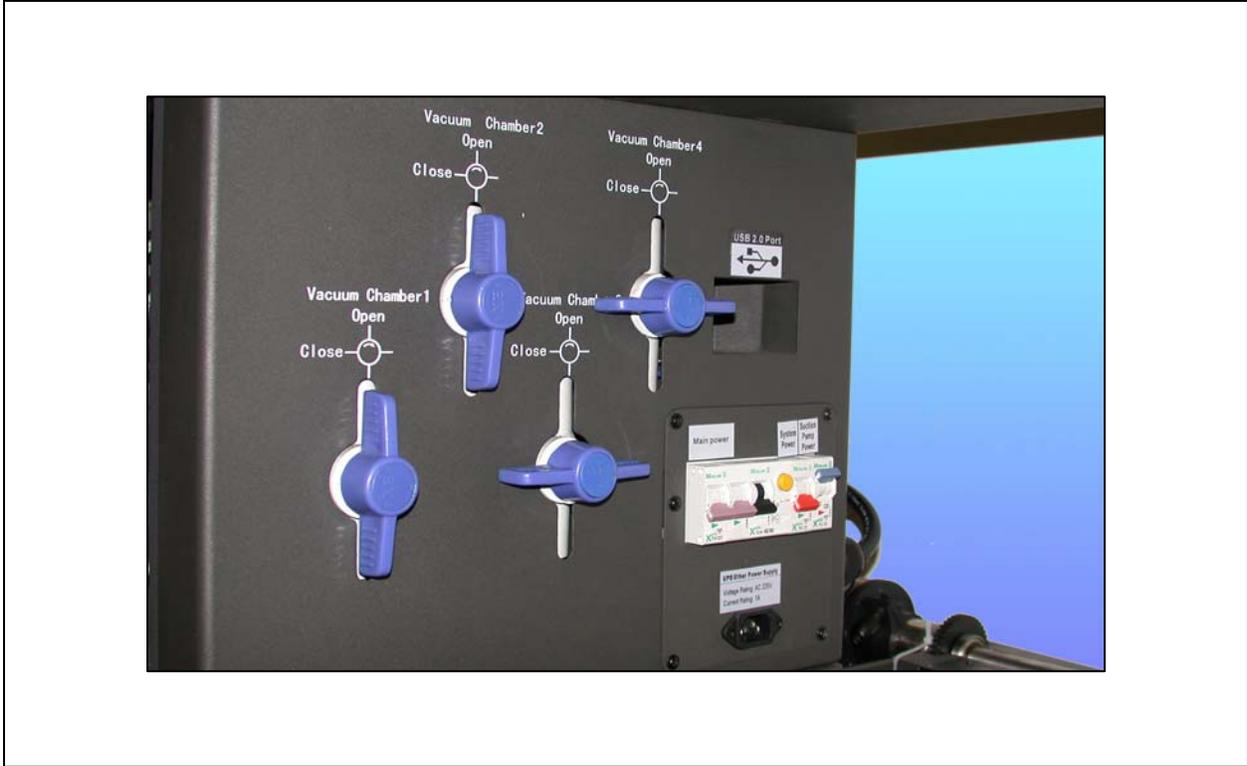

Figure 30 Adjusting the Vacuum Belt Suction Width
- 8 If you have not done so, turn on the suction pump to hold the media in place. See **Figure 30** (above). Neglecting to turn on the suction pump will adversely affect the print quality.